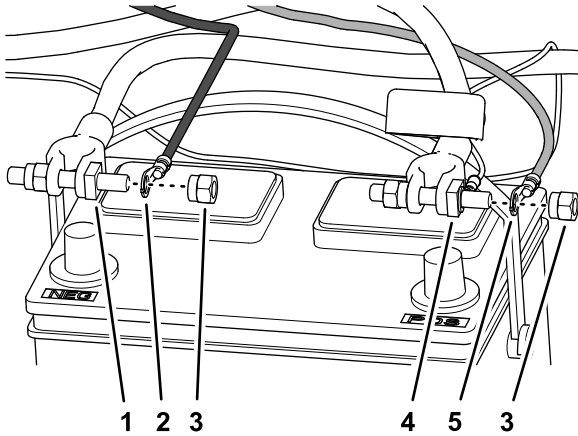

Figure 6
2. Assemble the ring terminal of the power harness for the wire labeled BATTERY (-) onto the battery clamp bolt for the negative battery cable with a battery-clamp nut (Figure 6).
3. Assemble the ring terminal of the power harness for the wire labeled BATTERY (+) onto the battery clamp bolt for the positive battery cable with a battery-clamp nut (Figure 6).